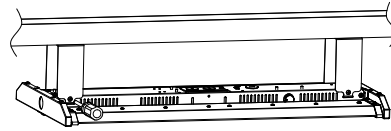

Figure 7
- Step 2. Assemble the light on the bracket and fix it with screws; (Figure 7)